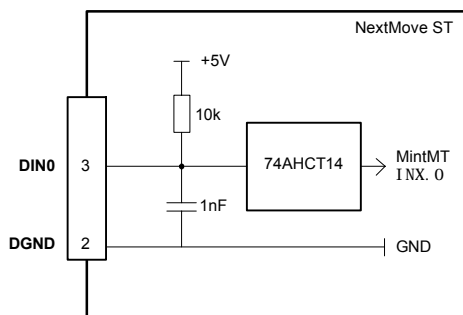

Figure 12 - General purpose digital input - DIN0 shown
**Note:** The `AUXSTEP IN` and `AUXDIR IN` inputs use the same type of input circuitry as the other digital inputs (see Figure 12). However, due to the faster internal processing required for these signals, they are particularly sensitive to noise. For this reason, connections must use shielded twisted pair cable.